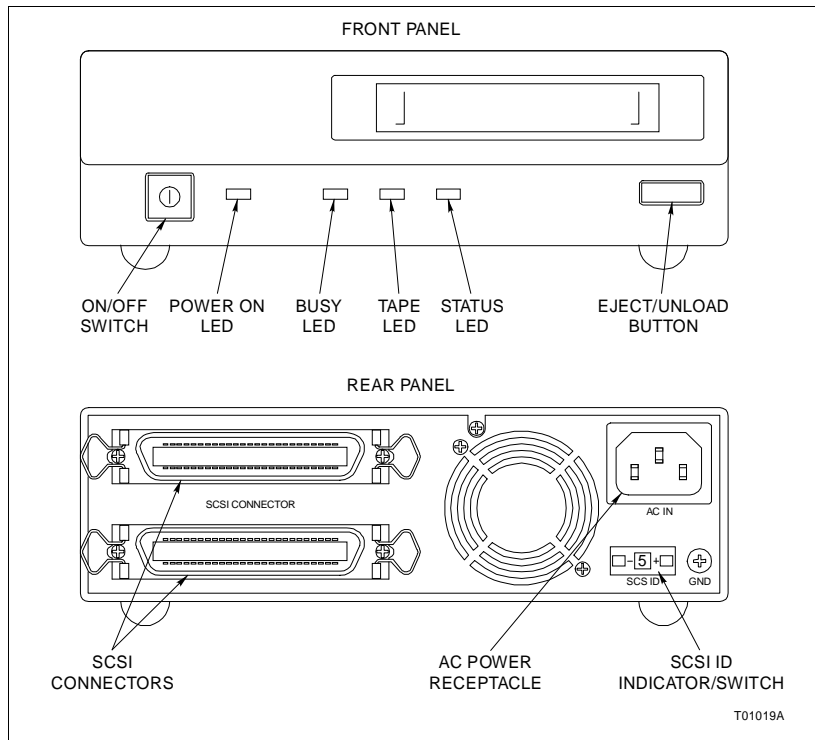

Figure PR43-1. DAT Tape Drive
- 3. Set the SCSI address on the SCSI address switch located on the rear panel of the DAT tape drive to 5 (Fig PR43-1). To do so, press the + or — button until the desired address (5) appears through the window.